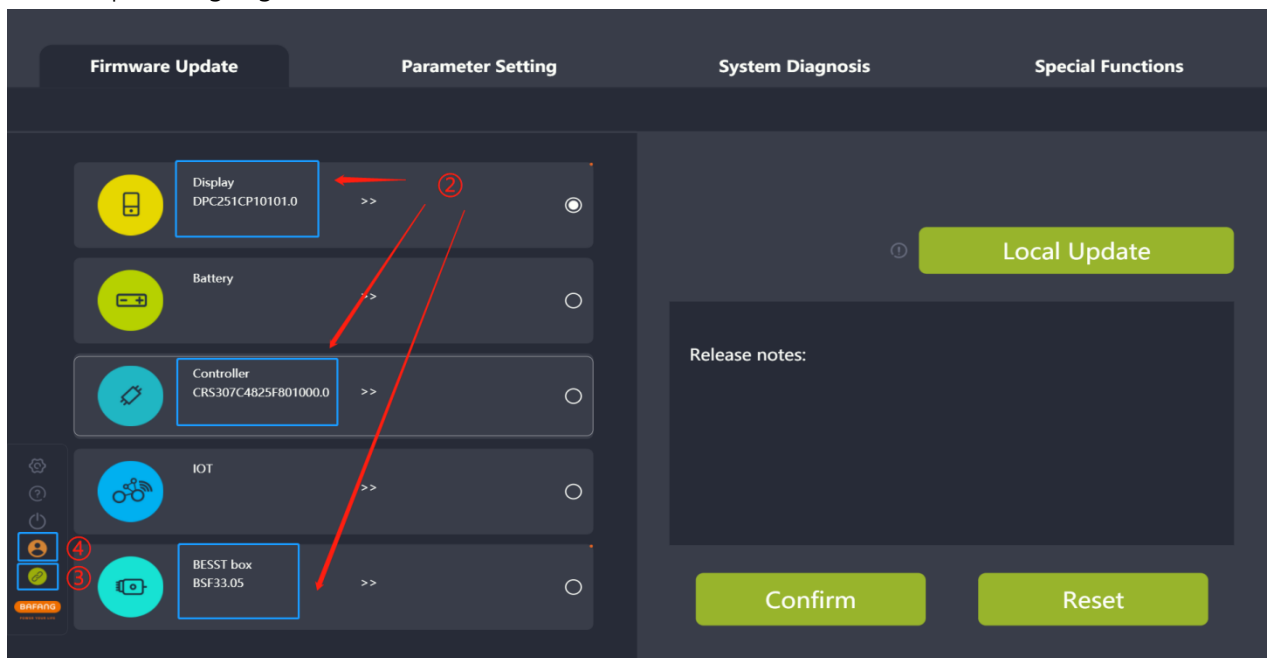

Fig. 3-2 Part Inspection
- (2) Read each part information at the same time, and then display the information of connected parts (e.g. Fig. 3-2);